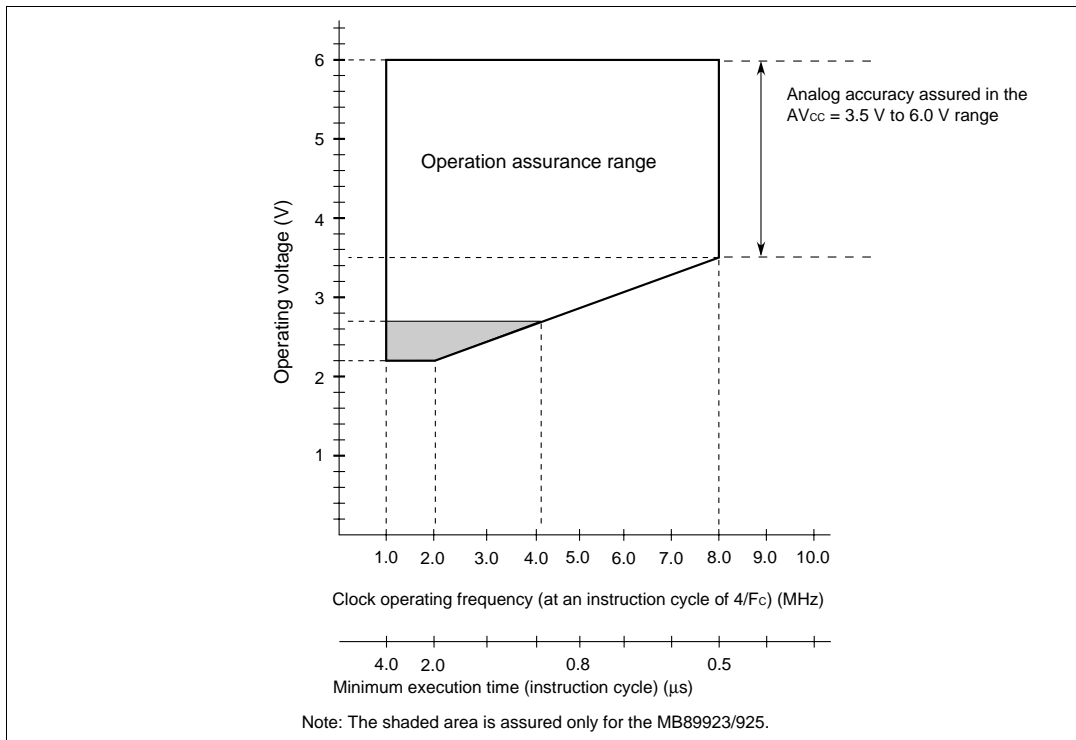

Figure 1 Operating Voltage vs. Clock Operating Frequency
*1: These values vary with the operating frequency, instruction cycle, and analog assurance range. See Figure 1 and "5. A/D Converter Electrical Characteristics."
Figure 1 indicates the operating frequency of the external oscillator at an instruction cycle of $4/F_c$. Since the operating voltage range is dependent on the instruction cycle, see minimum execution time if the operating speed is switched using a gear.